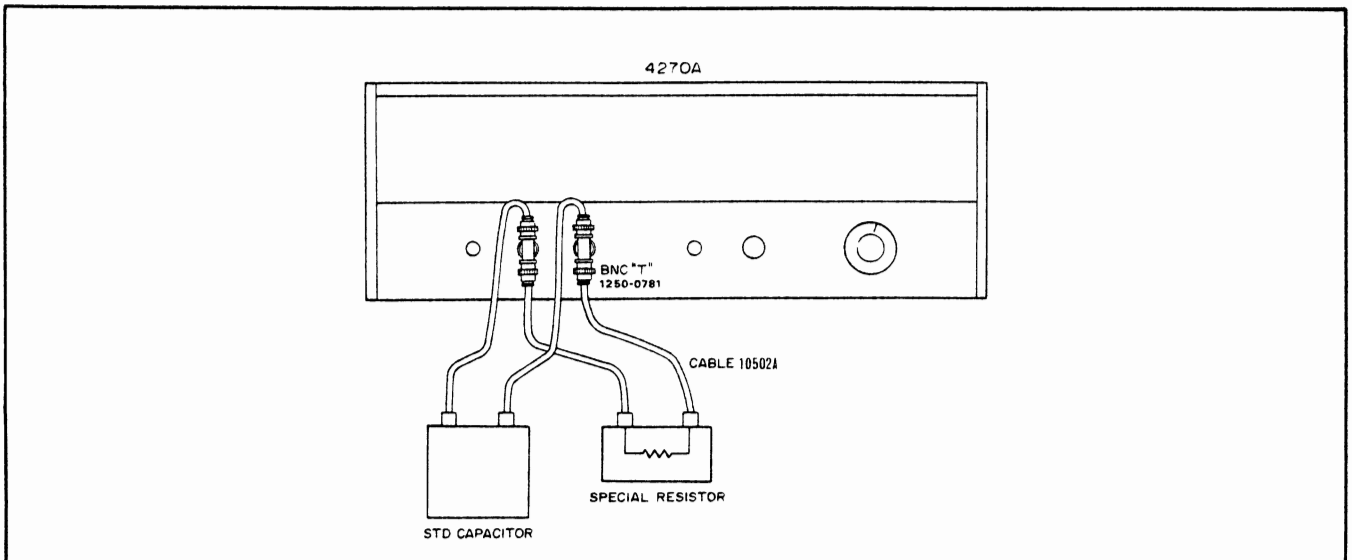

Figure 5-2. Capacitance and D/G Accuracy Check when $.1 \leq D < 1$
- b. Figure 5-2 illustrates the recommended test set up.
- d. Connect the 100pF Standard Capacitor and the 2MΩ resistor to the UNKNOWN connectors as shown in Figure 5-2.